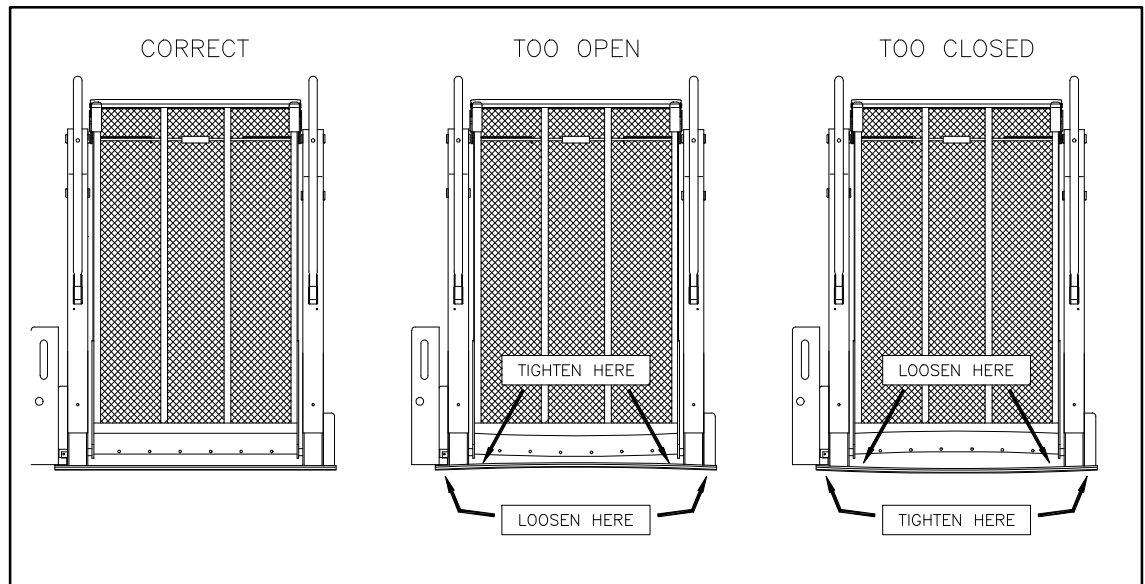

FIGURE 2-1: PLATFORM MOUNTING
- Refer to **Figure 2-1**. Improper fastening sequence, or torquing of bolts, may result in a warped or buckled baseplate and cause lift to operate unevenly.